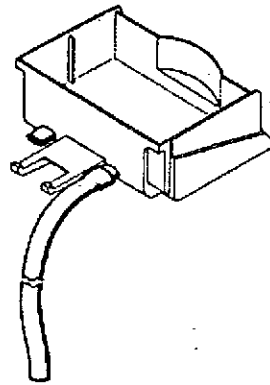

figure 1
- 3/VII Each drip tray has two diaphragm plugs: if a continuous drain is needed, perforate one of the drain plugs and connect it to a flexible drain line (see figure 1)